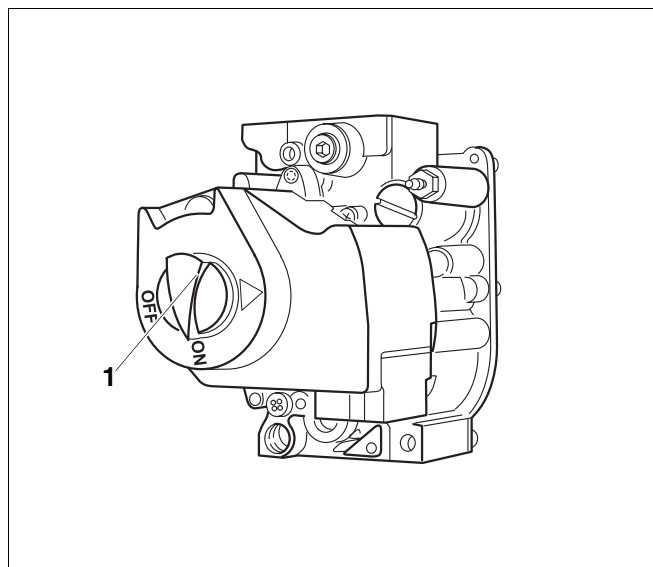

Fig. 31 Gas valve
24. If the gas valve operates correctly, proceed to step 25. If the gas valve does not operate correctly, switch ON/OFF switch (→ Fig. 31) on the gas valve clockwise to the OFF position immediately. Close main gas valve. Disconnect heating system from the power supply and inform the customer service technician or gas company.